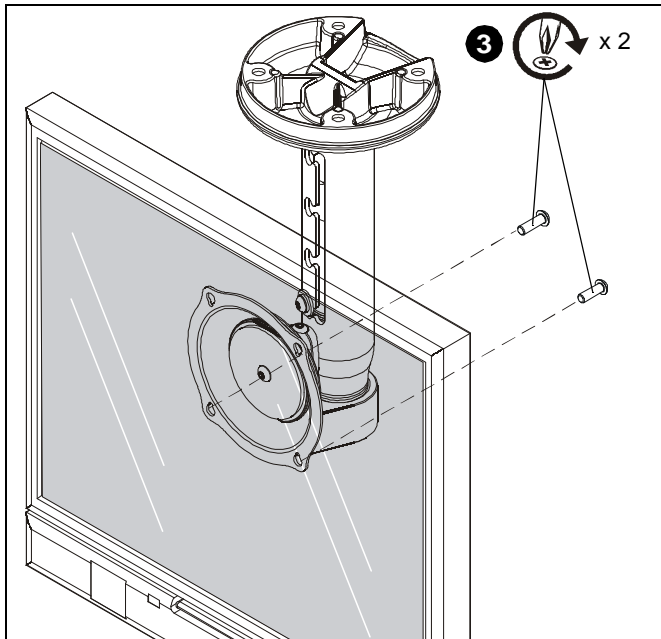

Figure 11
3. Install two removed screws through lower mounting holes in display mounting plate and into display back. (See Figure 11)